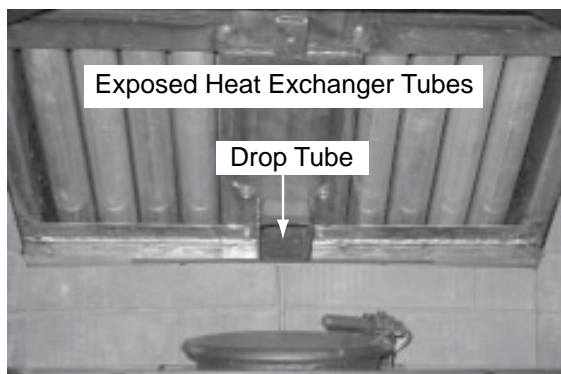

Figure 4.2
1. Use a Shop Vac to vacuum any fly ash and soot from the heat exchanger tubes and firebox area. **Figure 4.2.**